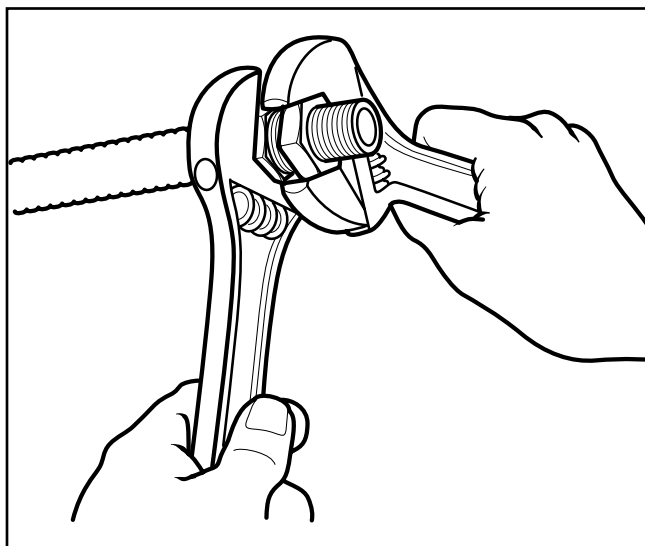

Figure: 4-6
5. **FINAL TORQUE:** Tighten nut and adapter to the torque values shown in Table 4-4. When a torque wrench is not available, use the following method: Tighten nut and adapter as though you were making up a flared tubing joint. Note relation between hex flats at this point and continue to tighten for two additional hex flats (one-third turn) to obtain required torque and final leak-tight seal. Figure: 4-6